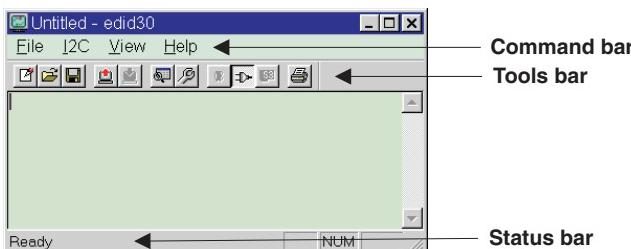

Fig. 6
- Click button. The main menu appears (as shown on Fig. 6).